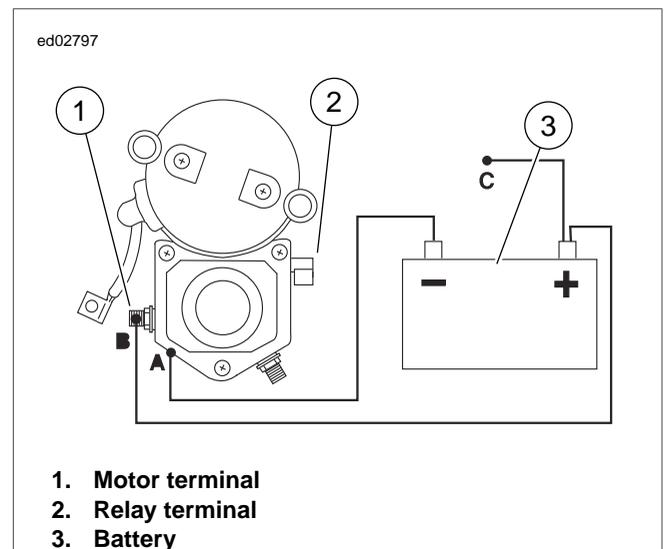

Figure 1-11. Return Test
1. See Figure 1-11. With test leads still connected in the manner specified at the end of the previous 1.6 TESTING STARTER ON BENCH, Solenoid Hold-In Test, disconnect solenoid relay terminal/positive battery post test lead at either end.